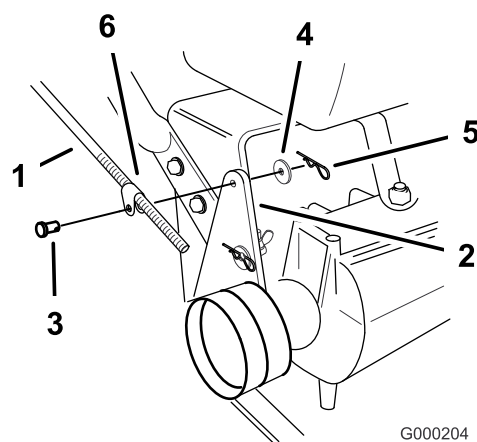

Figure 17
- Remove the hairpin cotter, washer and clevis pin securing control rod fitting to the idler bracket (Figure 17).